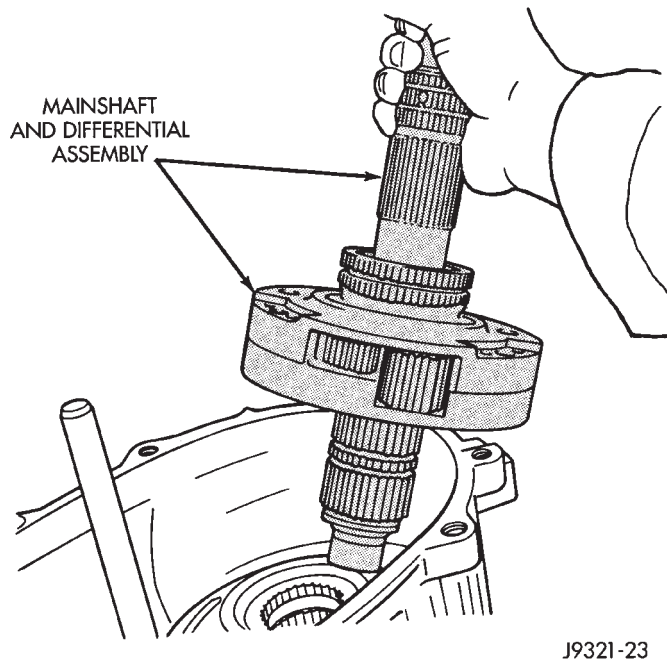

Fig. 23 Removing Mainshaft And Differential Assembly
(23) Remove mainshaft and differential assembly (Fig. 23).